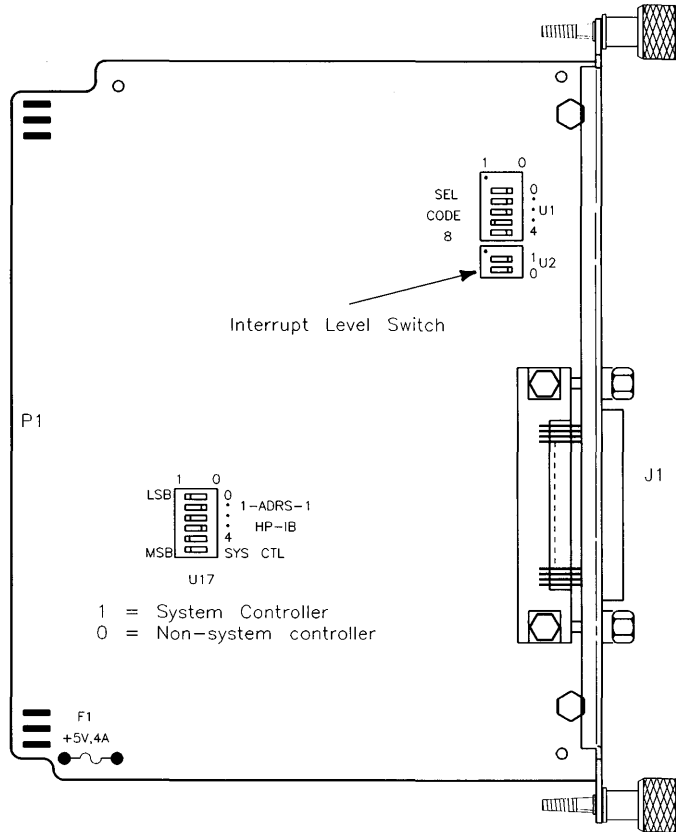

Figure 5-8.
- a. Find the set of five switches labeled U1 on the HP-IB Interface (see Figure 5-8). This group of switches determine the interface's select code.
If you need to change the interrupt level, refer to Figure 5-8 and set the switches labeled U2 according to Table 5-6:
- a. If connecting two computers together via HP-IB, only one of them may be set to address 21. To change the address of this interface, reset switches 0 thru 4 in the group of switches labeled U17 (see Figure 5-8). As an example, to change the address from the default setting of 21 to a new setting of 20, just change switch 0 in this group to 0 (the opposite of that shown).
- b. If connecting two computers together via HP-IB, only one of them may be set to system controller. To change this interface to non-system controller, move the SYS CTL switch shown in Figure 5-8 to the 0 position (the opposite of that shown).